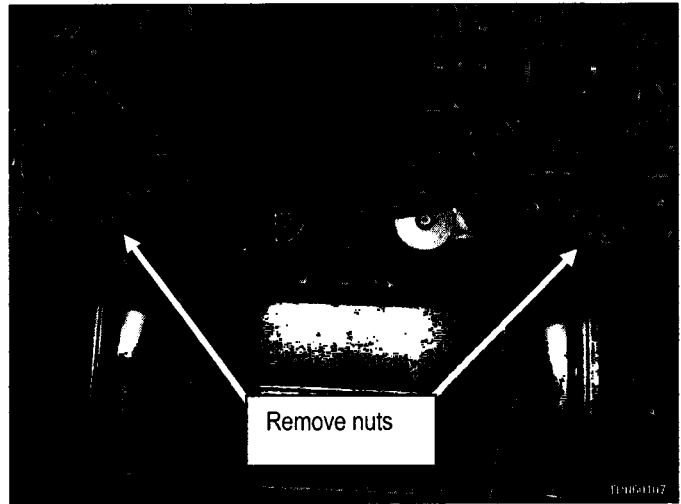

Figure 16
20. Remove the nuts that hold the center muffler mount brackets to the vehicle body (see Figure 16).